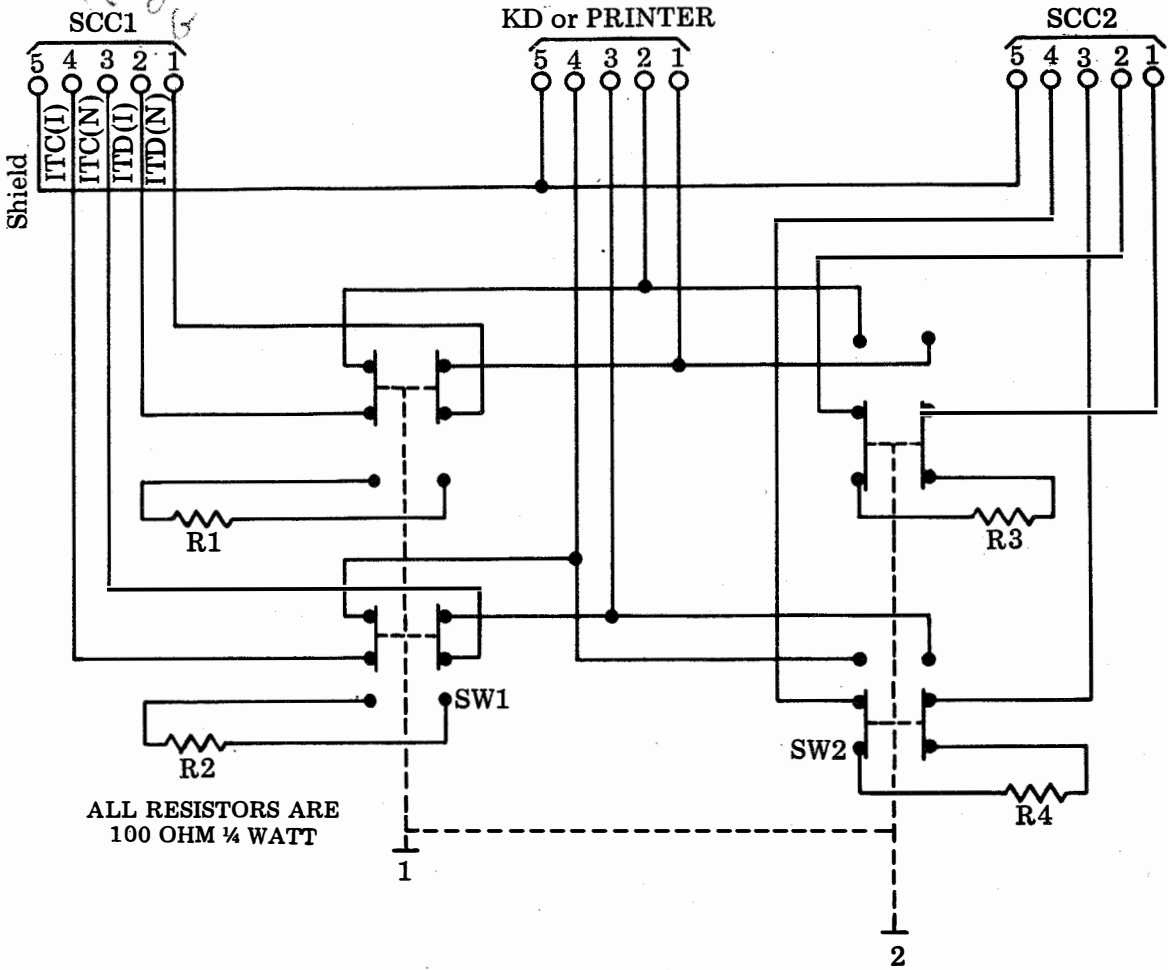

Fig. 3 - Internal Wiring
5.01 The internal wiring of the assembly is shown in Fig. 3.